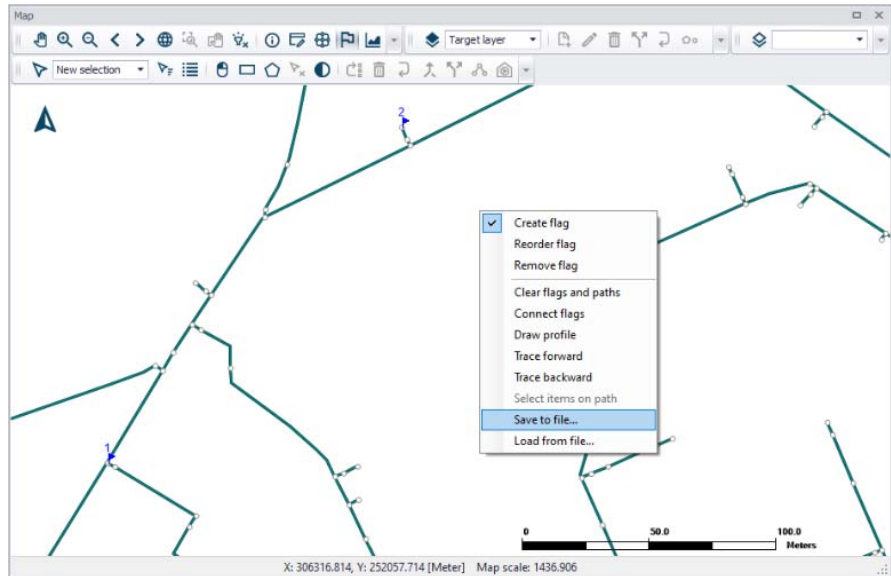

Figure 20.30 Set flags defining the path of the profile plot on the model map
- Click on the starting location for the profile path. Flags can be set on nodes, junctions, and rivers. This will place a small flag at the selected location along with the number of the flag (Figure 20.30).
- Continue setting flags on the map until the path is well-defined. The horizontal plan will then look as seen in Figure 20.30. You may save the set flag information using the 'Save to file...' option from the local context menu. The path information is saved to a \*. PATH file, which can be loaded in another session via the 'Load from file...' option.